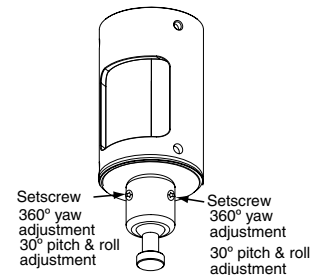

Figure 3
- ① Screw Outer Column (2" NPT) into Ceiling Plate.
- ② Attach Positive Stop to upper end of Inner Column, then slide Inner Column down through Extension Adapter. Tighten Extension Adapter using two 10-32 x 5/8" torx screws and #10 washers.
- ③ Install Extension Adapter and Inner Column assembly to Outer Column. Secure with one 10-32 x 5/8" torx screw. For increased security, replace the standard screw with a security screw (provided).
- ④ Attach Bracket Adapter and Ball Joint Assembly to Inner Column and secure with provided screw. For increased security, replace the standard screw with a security screw (provided). For additional security, remove the three standard screws holding the Ball Joint in the Bracket Adapter, and replace with provided security screws. You can also replace the adjustment screws in the Extension Adapter with provided security screws.
- ⑤ Use ceiling plate to mark ceiling.
- ⑥ If appropriate, run cabling down through pipe and out through opening in Bracket Adapter.
- ⑦ Attach plate to ceiling. If using optional Angled Mounting Plate, attach Ceiling Mounting Plate to Angled Mounting Plate using 1/4"-20 x 5/8" long hex head screws (provided), then attach Angled Ceiling Mounting Plate to ceiling (hardware for ceiling attachment not included).
- ⑧ Install Aero Universal Projector Bracket on projector if applicable (see separate instructions). Then, attach bracket and projector to Aero Accuset ball joint. Adjust as necessary (see Fig. 3).
- ① Screw column (1 1/2" NPT pipe) into Ceiling Plate.
- ② Attach Bracket Adapter and Ball Joint Assembly to column and secure with provided screw. For increased security, replace the standard screw with a security screw (provided). For additional security, remove the three standard screws holding the Ball Joint in the Bracket Adapter, and replace with provided security screws.
- ③ Use ceiling plate to mark ceiling.
- ④ If appropriate, run cabling down through pipe and out through opening in Bracket Adapter.
- ⑤ Attach plate to ceiling. If using optional Angled Mounting Plate, attach Ceiling Mounting Plate to Angled Mounting Plate using 1/4"-20 x 5/8" long hex head screws (provided), then attach Angled Ceiling Mounting Plate to ceiling (hardware for ceiling attachment not included).
- ⑥ Install Aero Universal Projector Bracket on projector if applicable (see separate instructions). Then, attach bracket and projector to Aero Accuset ball joint (see Fig. 3).